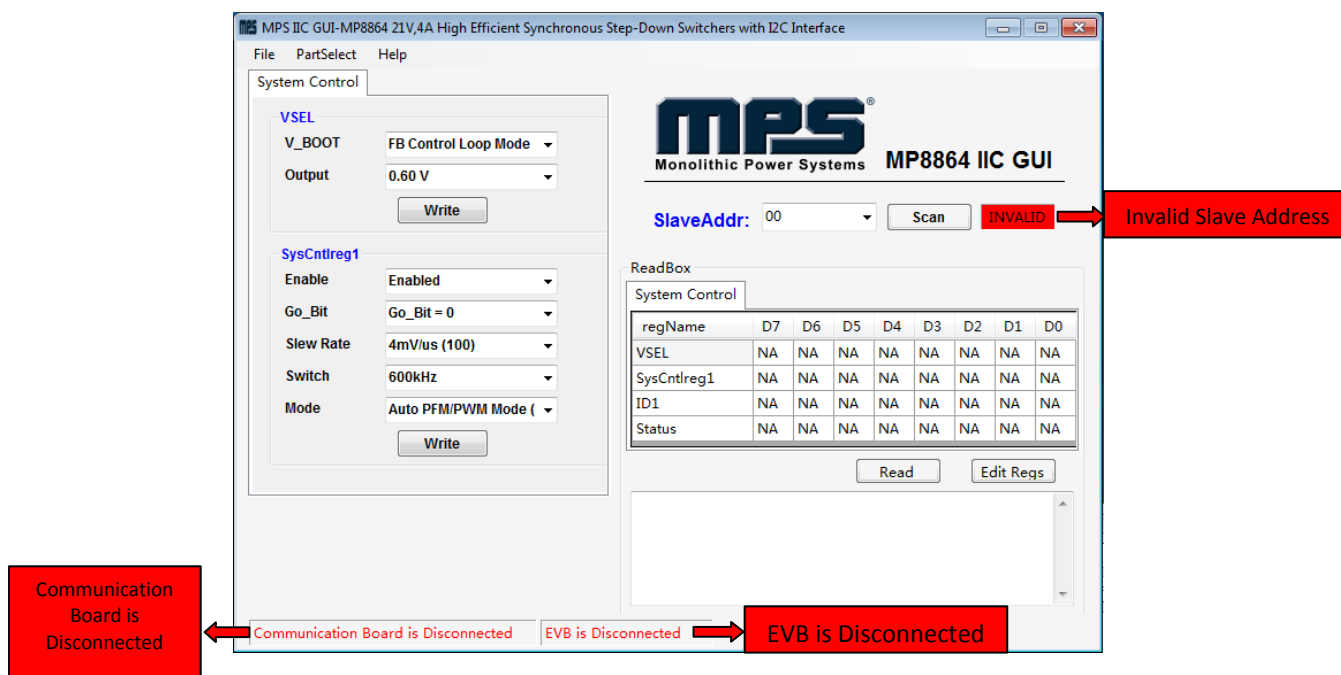

Figure 8: Warning Indicates Unsuccessful Connection – Evaluation Board not Connected
- 1) “No Slave Found. Please Check the Connection!” This means that the evaluation board is not connected (see Figure 8).